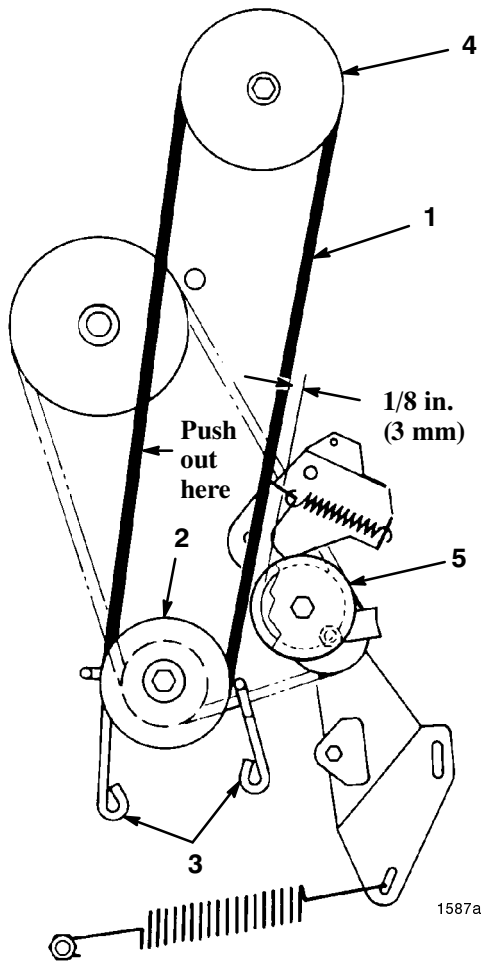

Figure 27
7. Loosen the screws securing the two engine pulley belt guides and move the guides away from the pulley. Remove the deck drive belt from the engine pulley (Fig. 27).
12. Push out on the belt as shown in Figure 27, and check the clearance between the outside of the belt and the inside of the idler pulley (Fig. 27). The clearance should be approximately 1/8 in. (3 mm).